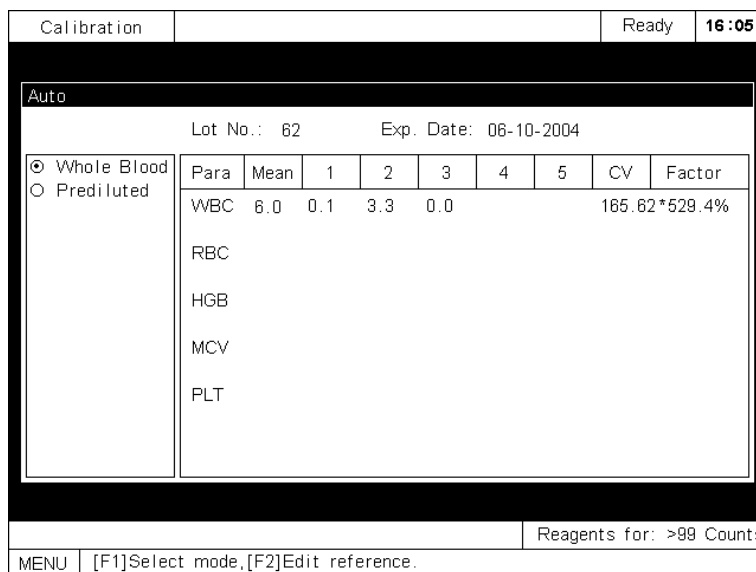

Figure5-13 Results of auto calibration
4. After you have saved three calibration results, this analyzer will automatically display the CV and calibration factors. You can save maximum five calibration results, as Figure5-13 shows. Note that the CVs should be within the ranges specified in Table 5-1.